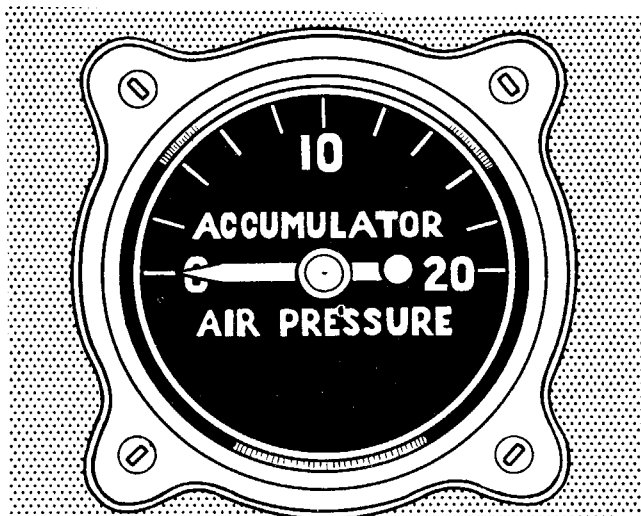

Figure 24 — Accumulator Air Pressure Gage
(4) **SYSTEM ACCUMULATOR PRESSURE GAUGE.**—This is the right hand gauge on the panel between the rudder pedals (see figure 24). It indicates the reserve pressure stored in the air side of the main system pressure accumulator.